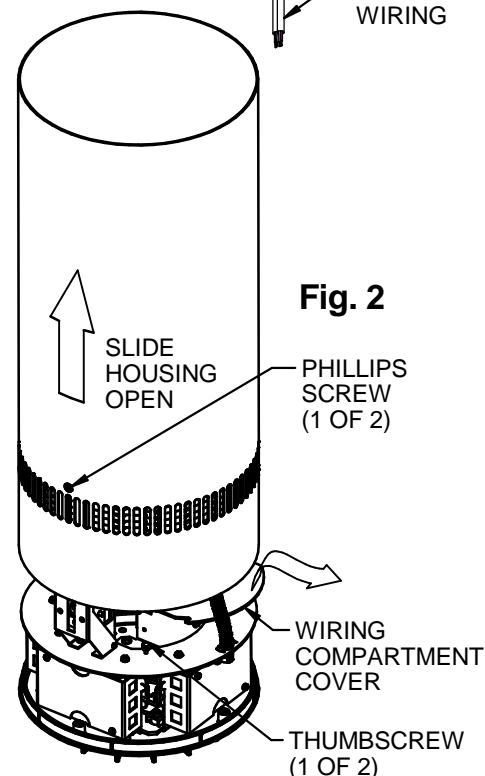

Fig. 2
3. Carefully stand the cylinder on its top (the finned, cast end). Loosen (do not remove) the two Phillips screws on opposite sides of the cylinder (near the vent slots) until the screws disengage from the internal locking slots and the cylinder housing is free to slide. Slide the outer cylinder housing open towards the reflector (it should move about 7 inches from the top finned casting) and tighten the two Phillips screws until the cylinder housing maintains its open position (**Fig. 2**).